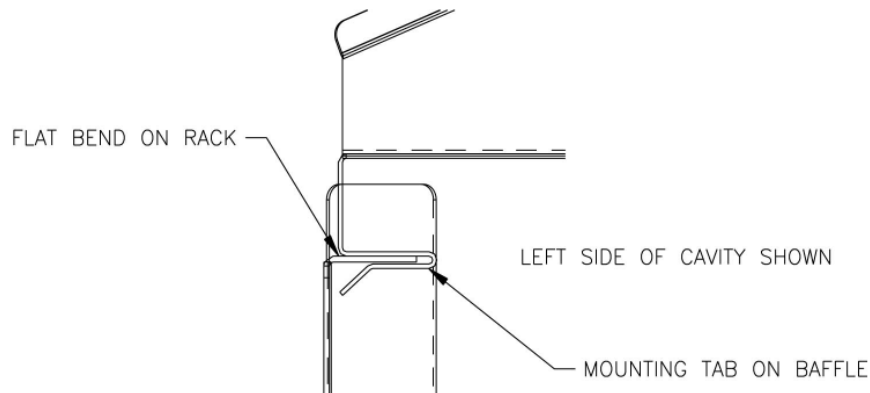

Fig. 2.
4. After installing one pan support rack correctly, you can install the baffle. Position the baffle so that the 45° bend is facing up and towards the front of the unit. Slide the mounting tab onto the flat bend on the pan stop bracket. The baffle should now stay in place by itself, but in a tilted state. See Fig. 2.